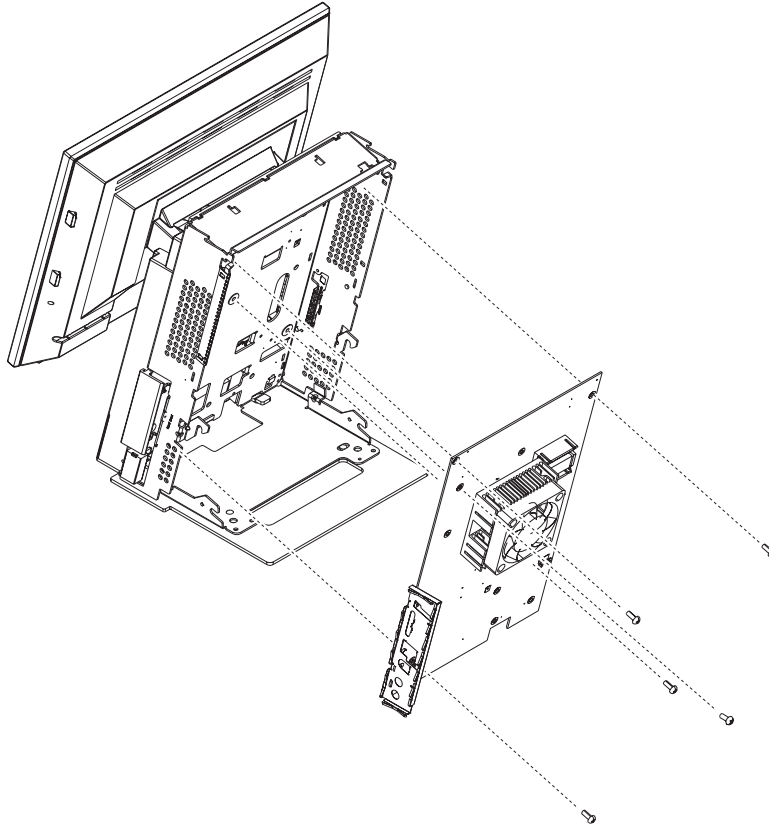

Figure 45. Removing the system board
9. Remove the five screws, as shown in Figure 45 on page 66.